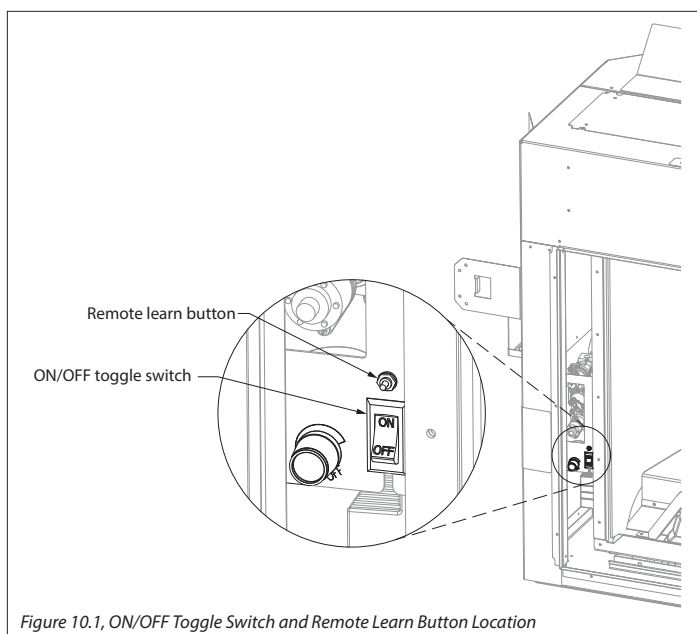

Figure 10.1, ON/OFF Toggle Switch and Remote Learn Button Location
2. Locate the remote sync button on the control module access switch on the left side of the fireplace. See Figure 10.1 below.
3. Press the remote sync button. The IFC module will BEEP (3) times and illuminate an amber LED. This indicates the receiver is ready to synchronize with the transmitter.
4. Within (5) seconds, push the ON/OFF button on the remote control. The receiver will BEEP (4) times to indicate the transmitter's command is accepted, and is set to the transmitter's particular code. The pilot will automatically ignite.